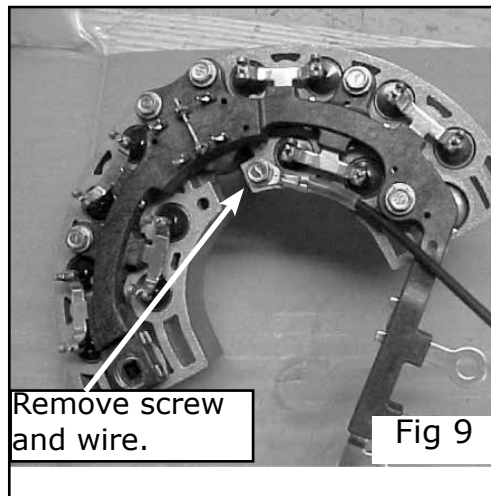

Fig 9
Step 7: Remove wire from solid lead frame assembly and discard. (Fig 9)